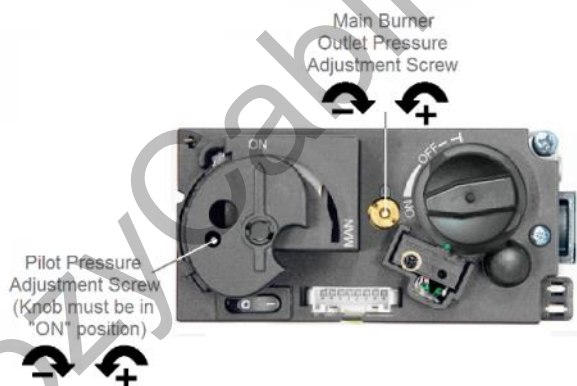

Figure 18 – GV60 Valve Top
1. The adjustment screw can be reached through a hole in the MANUAL knob (see Figure 18).
Convertible regulators are designed to deliver either of two fixed outlet pressures for Natural Gas (NG) or LP Gas. To change from one gas to the other, turn the outlet pressure screw housing (see Figures 18 & 19) counter-clockwise to remove. **Be careful not to engage the small flat slot on the screw itself but use the larger slot of the screw housing to remove the unit.** Unsnap and remove the plastic part, rotate it 180°, and then slide it back on the conversion plug until it snaps. Reinstall the conversion plug by screwing it clockwise until it bottoms out. The low pressure orifice must also be changed (see Figures 20-25, pages 24-26).